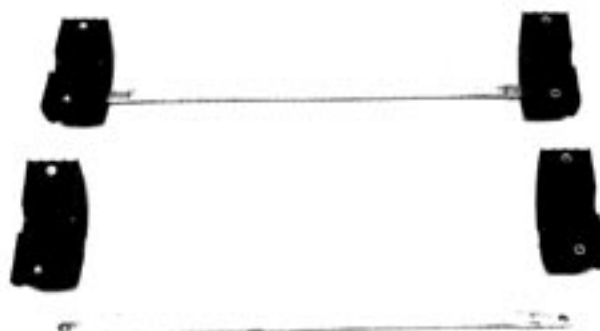

Figure 18 — Application of C-Cement to End Plate Surfaces
9.01 Apply a thin coat of C-Cement to each inside surface of End Plates as shown in Figure 18.